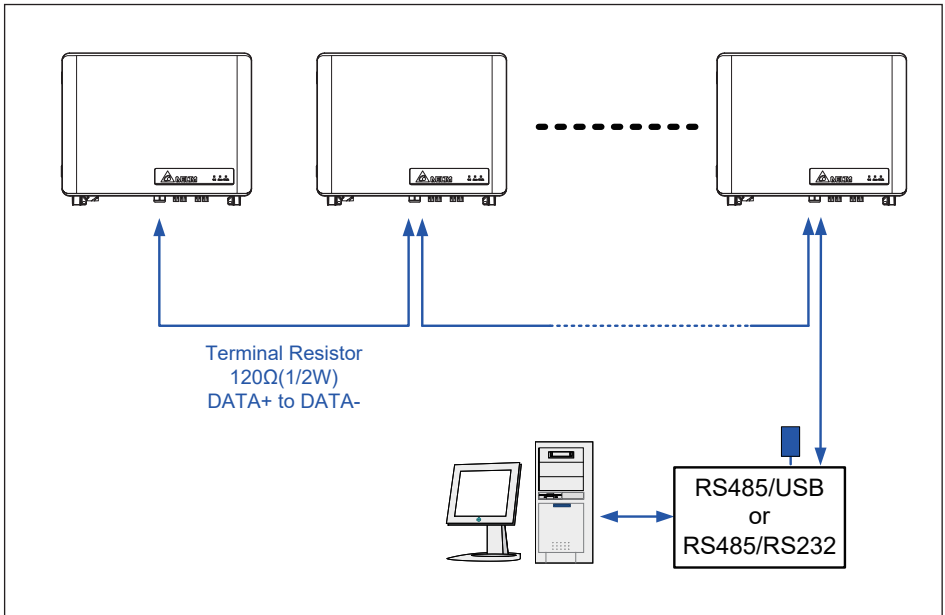

Figure 3-18: Multiinverter connection illustration
- When multiple inverters are cascaded (i.e., "daisy-chained"), only the last inverter in the chain must have its bus termination resistor switched ON. (**Figure 3-18**)